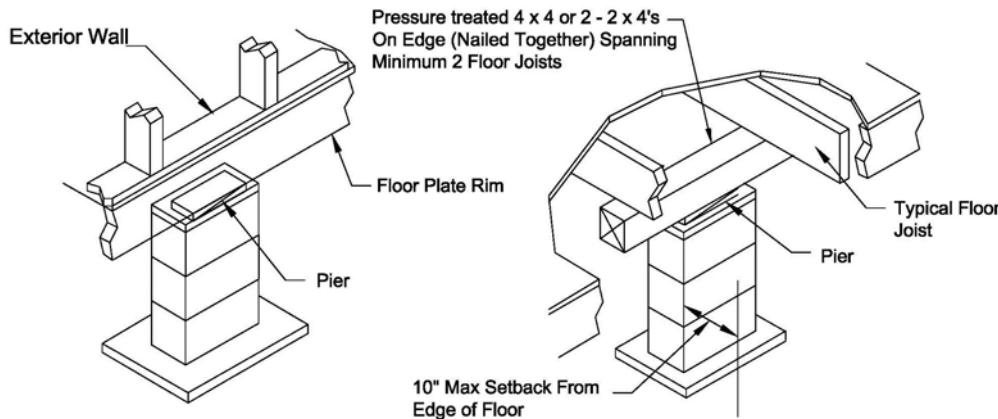

Figure 14. *Perimeter supports*
- Recess perimeter blocking supports and perimeter point load supports no more than 10 inches from the edge of the floor with added support as shown in Figure 14.